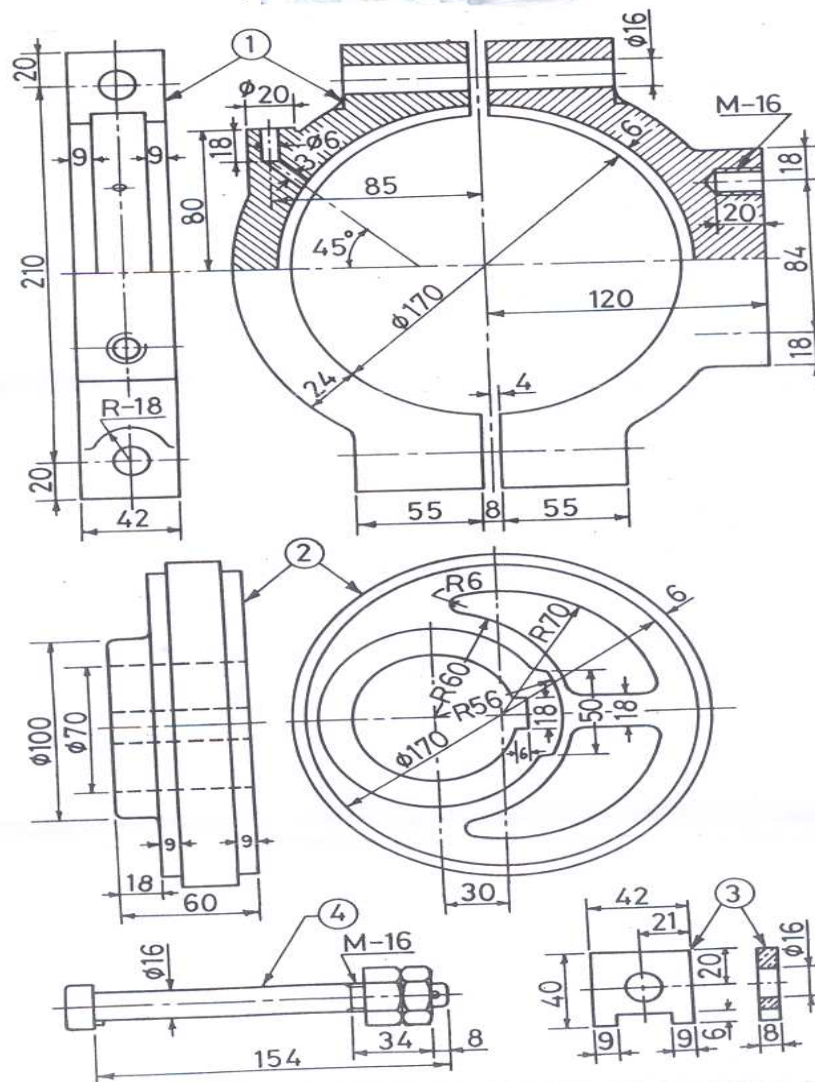

Figure 2:
2. Assemble the parts of Eccentric shown in figure 2 and draw.